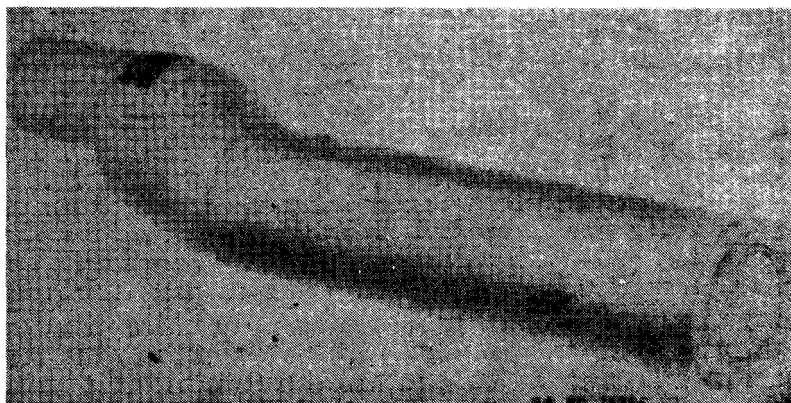

Figure 2 -Observation Telescope M49
a. Observation Telescope M49 (fig. 2) is a 20-power telescope having a field of view of 2 degrees 12 minutes and an exit pupil diameter of 0.108 inch. The image is erected by a porro prism system. The over-all length of the telescope is approximately 14½ inches.